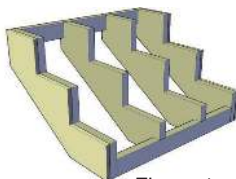

Figure 1
- NOTE: Notch the stringer to accommodate the trims (fig. 1)
- Follow same guidelines listed in the Fascia/Skirt Board section (fig. 1)